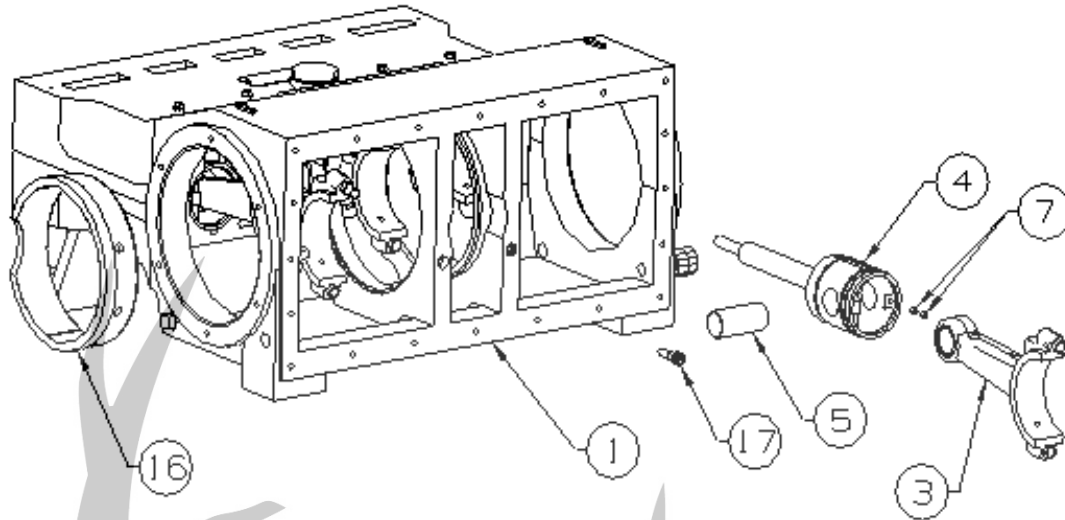

Figure 11: Q12 Connecting Rods and Crossheads
10. Remove the center bearing lock screws (17). Slide the center bearings (16) from the power frame. See Figure 11.